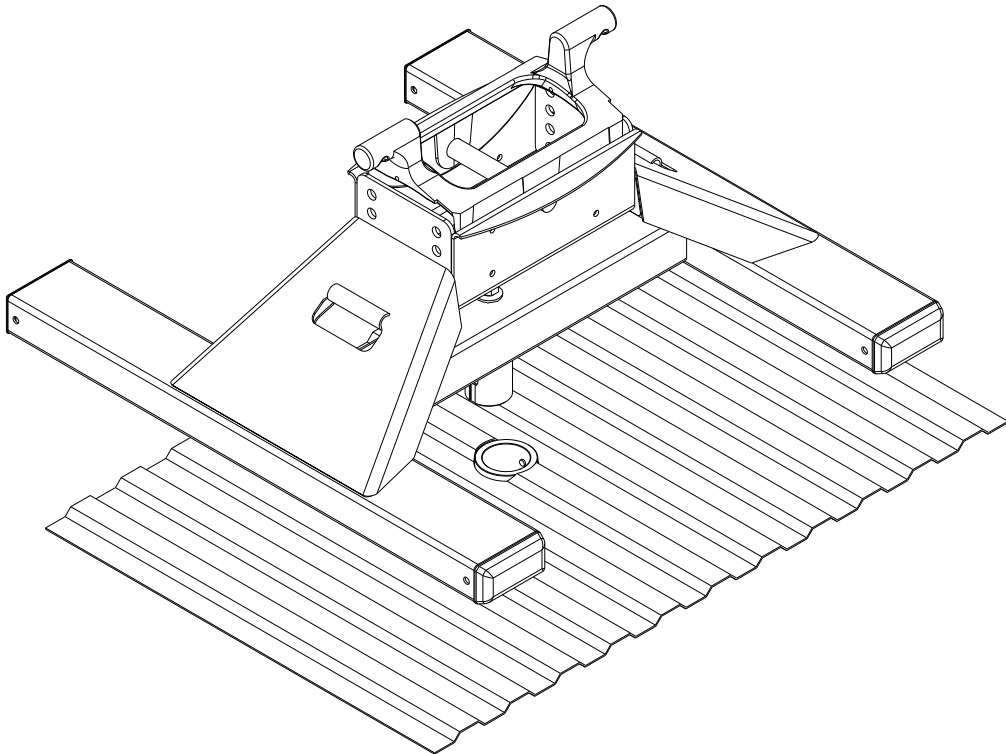

FIGURE 13
7. Slide the Post Assembly into the gooseneck hitch as shown below in figure 13. The plastic strips should fall into the corrugations on the truck bed if adjusted correctly.